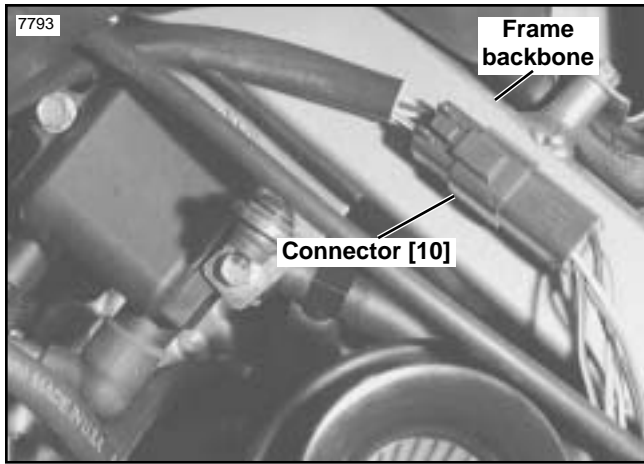

Figure 4. Ignition Module Connector [10]
4. See Figure 4. Disconnect the ignition-module connector [10], a 6-pin Deutsch connector on the left side of the frame backbone.
- See Figure 4. Mate the connector halves.
See Figure 7. The slope of the advance curve is adjustable over a wide range. Setting the advance-slope switch to zero (0) results in minimum advance; switch setting 9 results in maximum advance. Switch settings 1 through 8 are advance curves between the minimum and maximum curves shown in Figure 4. Higher switch settings result in more aggressive slopes above idle and more advance at high RPM. Start with switch setting 5 and adjust from there.